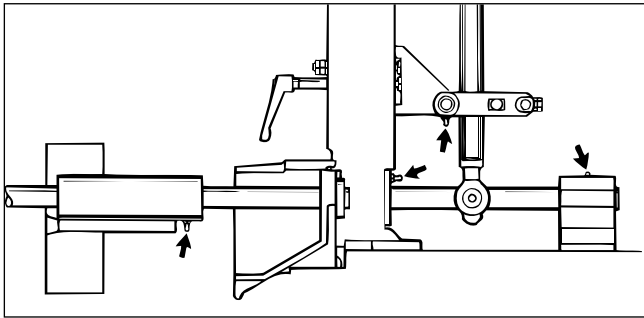

FIGURE 4-1
- Apply two or three pumps of grease to spindle (see Figure 4-1).
- Apply grease to Feed Force Screw Stop Blocks (see Figure 4-1).
- Apply grease all other grease fittings (see Figure 4-1).